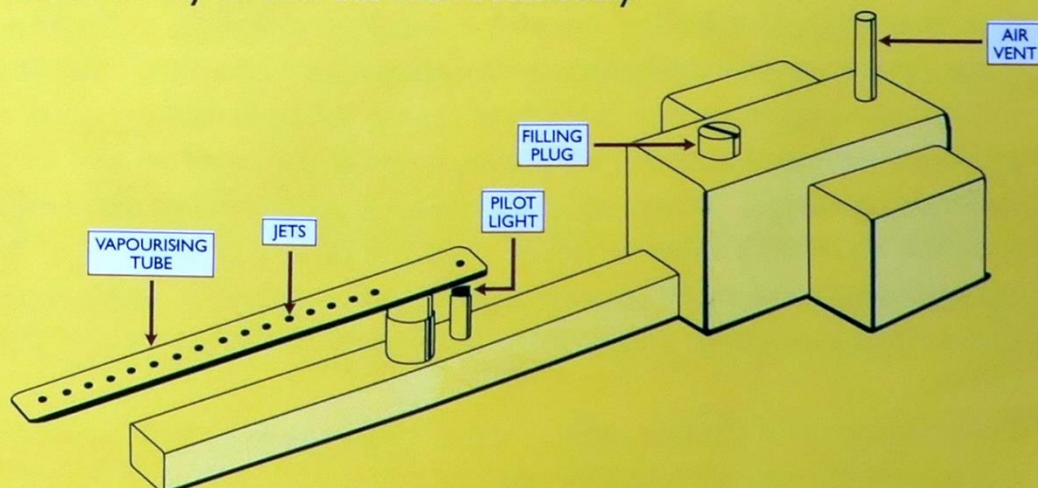

Fig. 3
- 5.1 **Principles.** The vapourising spirit lamp is shown in **Fig. 3**. It is fitted with the correct wicks for optimum operation. Ensure that the holes in the vapouriser are always free of carbon deposit. They can be cleaned with a fine pricker. **Care must be taken not to enlarge these holes and disturb the designed burner operation.**